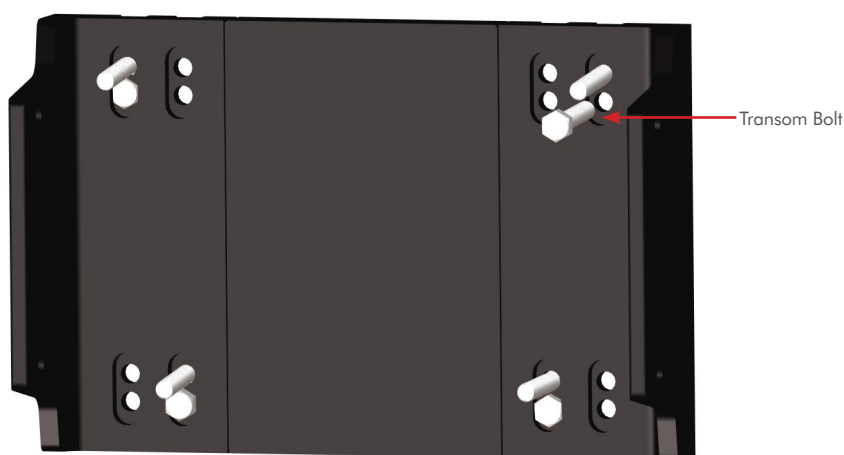

Figure 3
STEP 3: Install the **transom bolts** through the holes directly below the engine bolts in the **M to S adapter plate (B)** as illustrated. **FIG 3**